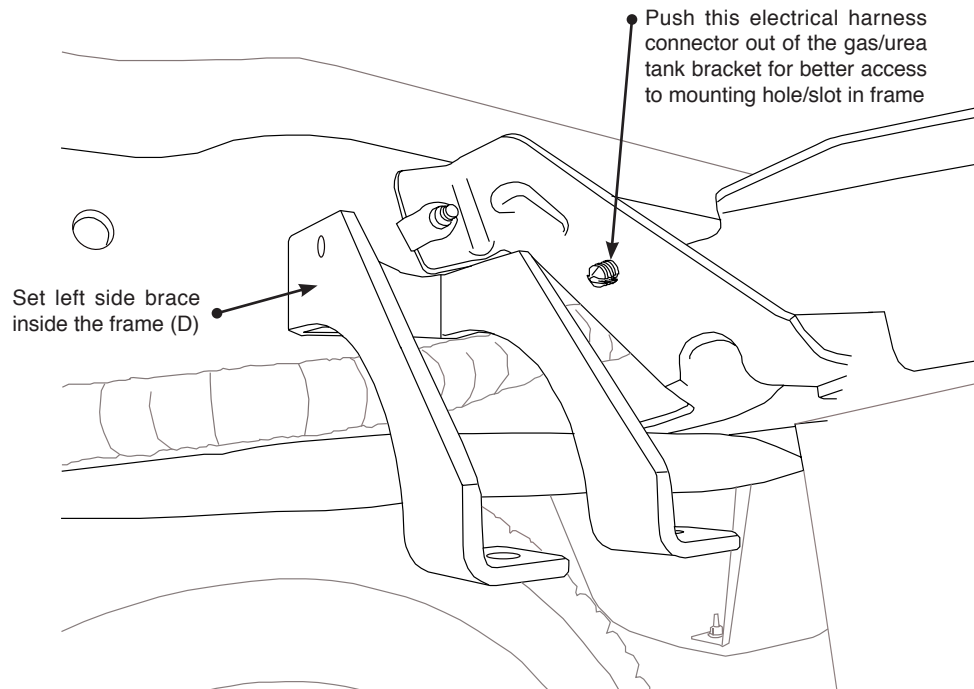

fig. 3
3. If necessary, disconnect the wiring harness from the driver side frame rail to gain clearance for the upper brace. Also, push the harness connector out that holds the electrical lines going to the gas/urea tank in or out of the tank bracket. This will improve the socket/bolt access that will be required for installing and tightening the frame brace (fig. 3).
6. Cap the brace/upper bracket carriage bolts with a 3/8" flat washer (V) and 3/8" nyloc nut (U) and tighten both securely on both sides.
7. With the spacers (H) on the upper brackets tight to the bottom of the frame and the braces tight to the upper bracket, tighten the 8mm (driver side only) and 1/2" or 3/4" hardware previously installed, that hold the braces to the frame. Tighten both sides securely.
8. Once the left (driver side) 1/2" or 3/4" hardware has been tightened, push the wiring harness connector which was removed in the "getting started section" back into the gas/urea tank mounting hole. If this broke during disassembly, wire tie it to the bracket (fig. 3).